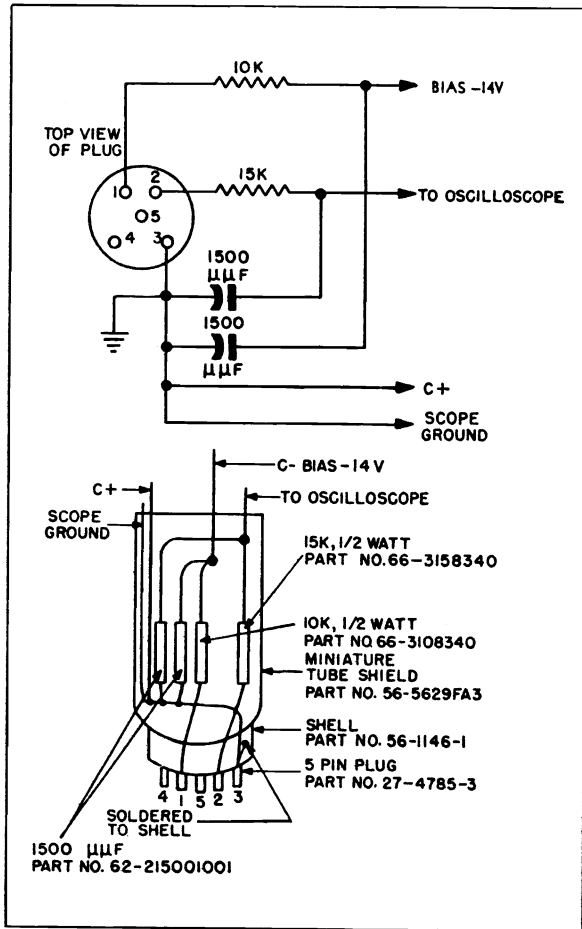

Fig. 2. Video I-F Alignment Jig (Video Test Jack Adapter No. 1).
The alignment jig used at TS1 and shown in figure 2, should be used during the i-f alignment, to apply the proper bias to the a-g-c bus, and to provide a convenient oscilloscope connection. This adapter consists of a five-pin plug, two 10,000 ohms resistors, and a 1500 mmf condenser for isolation of the bias supply. To isolate the oscilloscope from the receiver circuits, a 15,000-ohm resistor, by-passed by a 1500 mmf. condenser, is used. A suggested method of fabricating the jig is also shown in figure 2. This jig should not be used to observe the composite video from the video detector output.
**OSCILLOSCOPE:** Connect the vertical-input lead to the 15,000-ohm resistor of the video i-f alignment jig. Connect scope ground lead to the ground lead of the jig. (See figure 2). Plug jig into TS-1.
**BIAS:** Apply 10 volts of negative bias, through 10,000-ohm resistor, to pin 1 of video I-F alignment jig; ground positive side of bias supply to pin 3 of jig. (See figure 2).